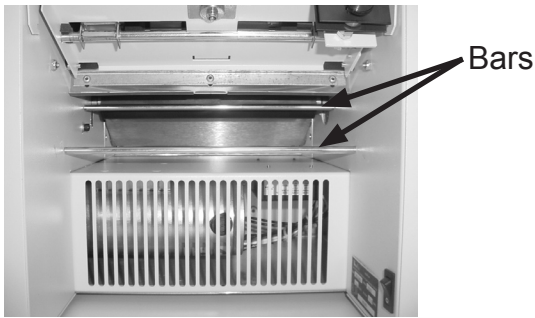
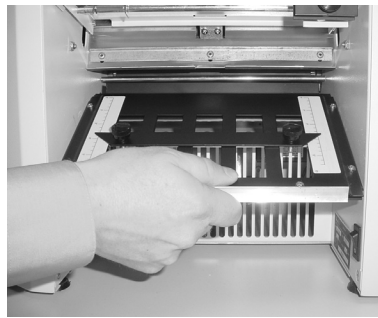
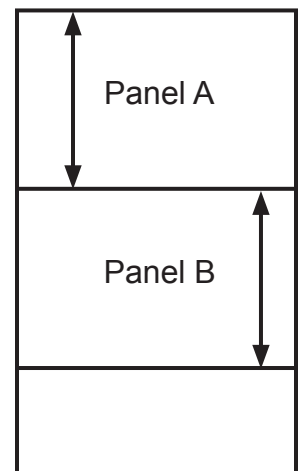

Figure 5a
Figure 5b
Figure 5c
5. To reinstall the lower fold plate, slide the plate (with the thumbscrews facing up and throat toward inside of machine, figure 5b) until it rests on the two silver bars (figure 5a) and locks into place (figure 5c).